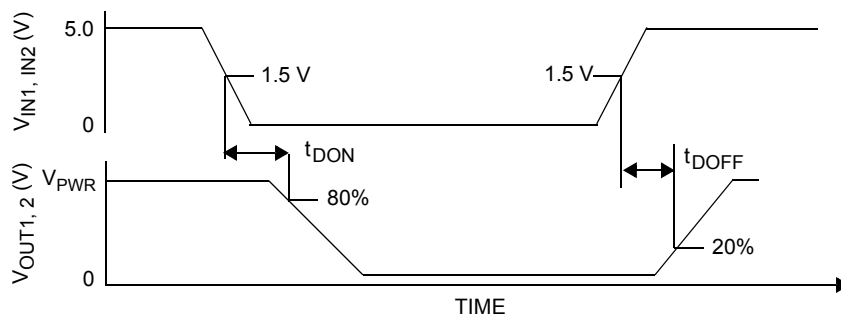

Figure 4. Output Delay Time
23. Output Delay is the time duration from 1.5 V on the IN1 or IN2 input signal to the 20% or 80% point (dependent on the transition direction) of the OUT1 or OUT2 signal. If the output is transitioning HIGH-to-LOW, the delay is from 1.5 V on the input signal to the 80% point of the output response signal. If the output is transitioning LOW-to-HIGH, the delay is from 1.5 V on the input signal to the 20% point of the output response signal. See Figure 4, page 10.